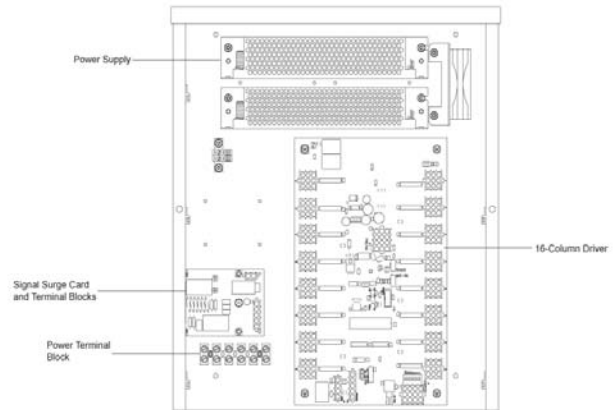

Figure 13: 16-column driver enclosure
4. Remove the screws, nuts or wing nuts securing the driver to the inside of the enclosure. Refer to **Figure 13**.